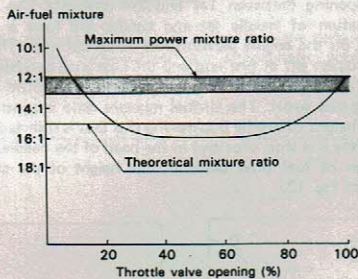

Fig. 1
2. AIR-FUEL MIXTURE (Fig. 1)
Varying mixture ratios are required for the engine depending on operating conditions. Although the required mixture ratio varies more or less with the type of engine, its cooling efficiency, etc., the mixture ratio shown in Fig. 1 is required for ordinary engines. In the high speed range the ratio of about 12 to 13 grams of air for 1 gram of fuel produces the maximum output. However, in the case of an engine with low cooling efficiency, a somewhat richer mixture (10 to 12 grams of air against 1 gram of fuel) may be required to prevent seizure of the engine.